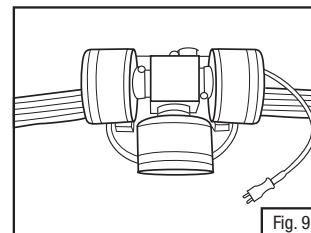

Fig. 9
3. Snap the back cover back onto the Turbo PAPR Unit. The retaining strap should have two loose ends, one on either side of the turbo unit (Fig. 9).